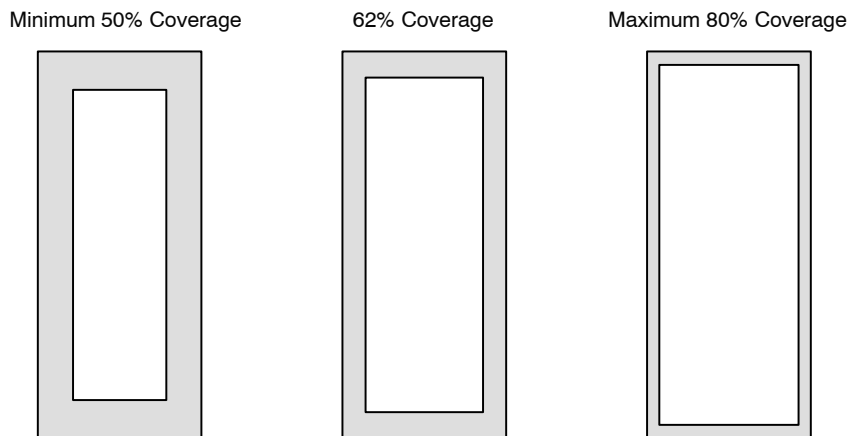

Figure 7. Solder Paste Application on Pins
4. The aperture opening for the signal pads should be between 50–80% of the SIP pad area as shown in Figure 7.